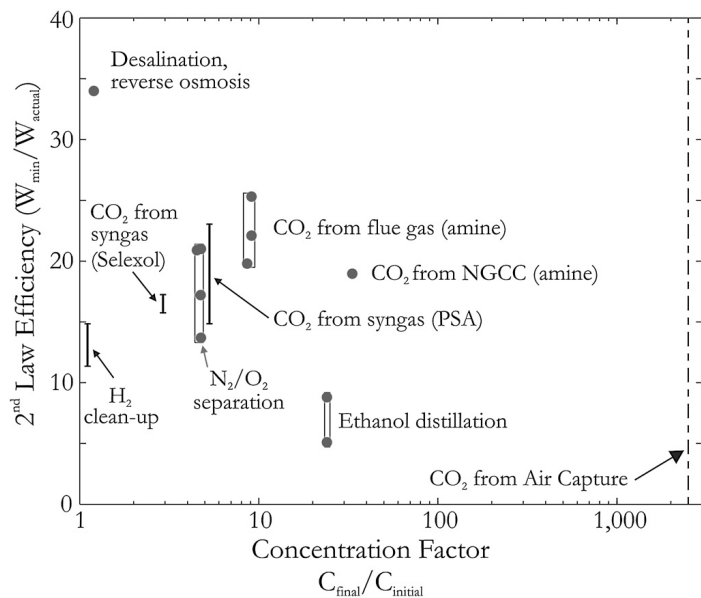

Figure 2: Empirical relationship between the concentration factor of industrial processes vs. the achieved efficiency of those processes. Kurt Zenz House, 2011
7. Real processes for  $\text{CO}_2$  capture require much more work than the thermodynamic limit evaluated in the previous question (Figure 2). We denote  $\eta$  the ratio between the thermodynamic limit  $W_0$  and the quantity of energy actually required to extract a kilogram of  $\text{CO}_2$ . Furthermore, the energy used to capture the  $\text{CO}_2$  might produce emission itself, which have to be taken into account in the balance. Considering that this energy is provided by a power source emitting  $I$  tons of  $\text{CO}_2$  per kWh, estimate the energy cost per net kilogram of captured  $\text{CO}_2$ .